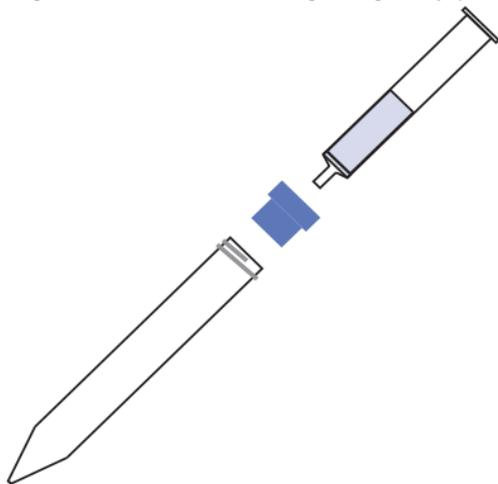

Fig 1. Assembly of column, adapter and collection tube.
For use in the spin protocol the PD MiniTrap G-25 column should be assembled with adapter and collection tube as shown in Fig 1.
- Put the PD MiniTrap G-25 into a 15 mL collection tube by using the column adapter, see Fig 1